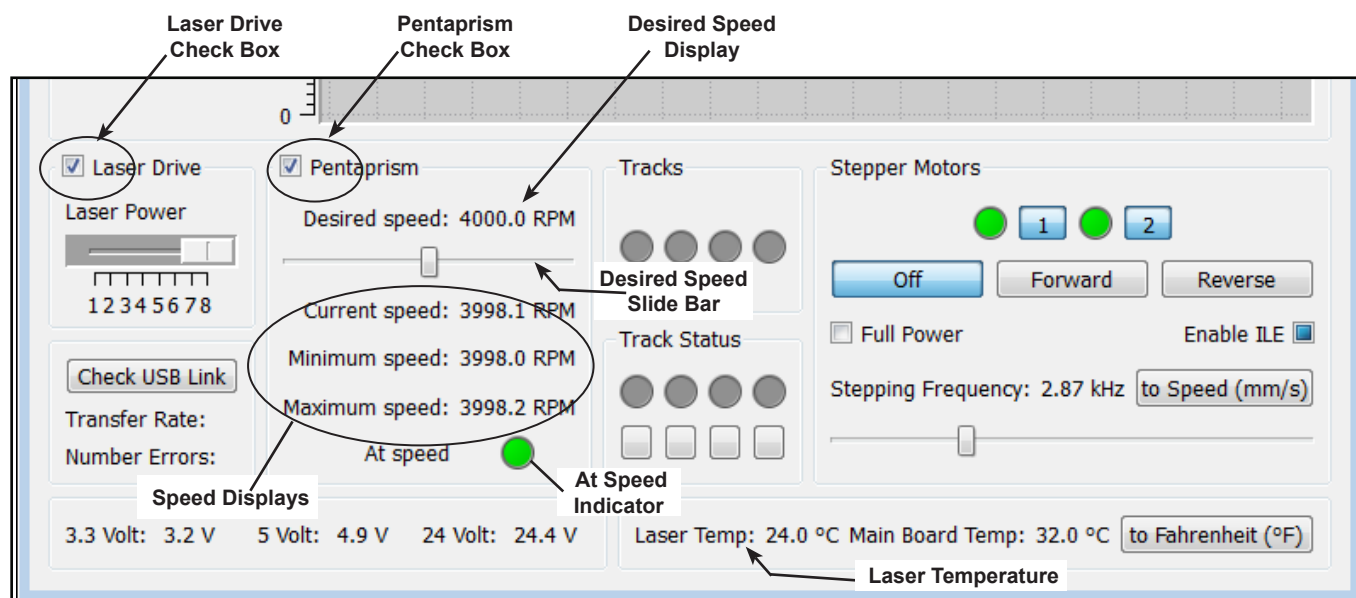

Figure 10. ScanX Laser Drive, Pentaprism Motor and SOL Board Test Sections
16. Check the **Laser Drive** check box shown by Figure 10.
- a. Refer to the **Laser Drive** section shown by Figure 10.
- a. Refer to the **Pentaprism** section shown by Figure 10.
- a. Refer to the **Laser Drive** and **Pentaprism** test sections as shown by Figure 10.